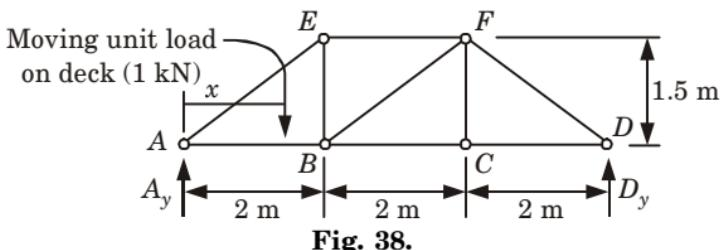

Fig. 38.
- b. Assume a unit point load is rolling along the bridge deck from points  $A$  to  $D$  in a simple truss as shown in Fig. 38. The distance  $X$  is the distance of the moving load from point  $A$ . Construct the influence line diagram for the three members  $EF$ ,  $BF$  and  $BC$ .
**Ans.****Given :** Truss shown in Fig. 38.**To Find :** Construct the ILD for the three members  $EF$ ,  $BF$  and  $BC$ .